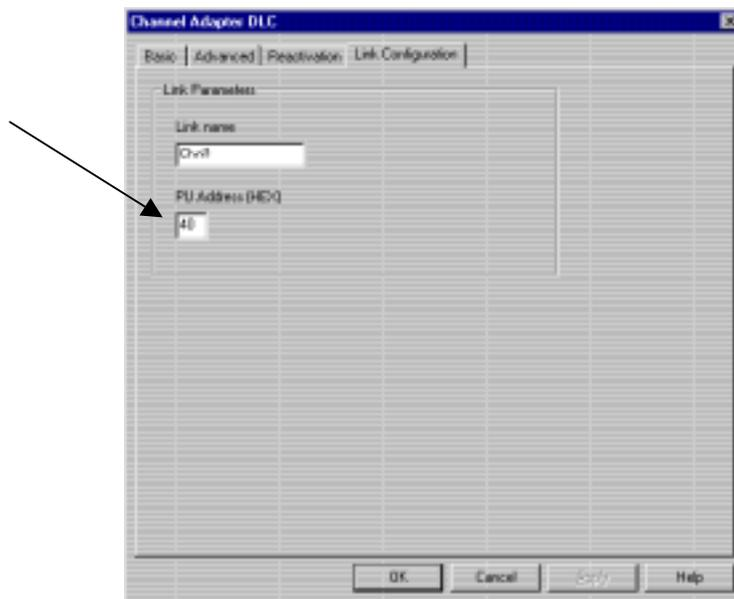

Figure 15-9. Check PU Address
4. Verify that the PU Address matches the address defined in the ESCON configuration and the mainframe IOCP (Figure 15-9).